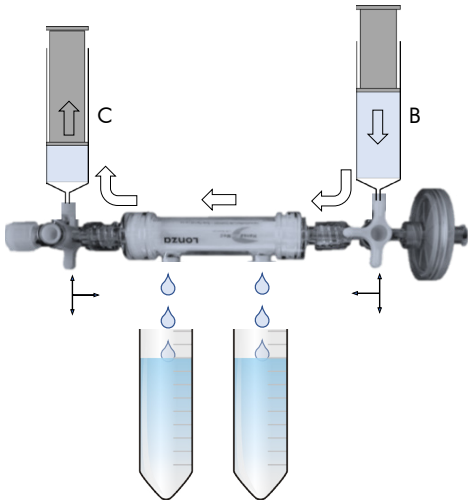

Fig 4
- Rotate the valve 3 to the position indicated in figure 4.
- Insert a new clean syringe (C) in position 5.
- Set 2 permeate collection tubes under the nozzles in position 4, as indicated in figure 4.
- Inject the buffer (buffer 1) containing EVs into the device as indicated in figure 4.